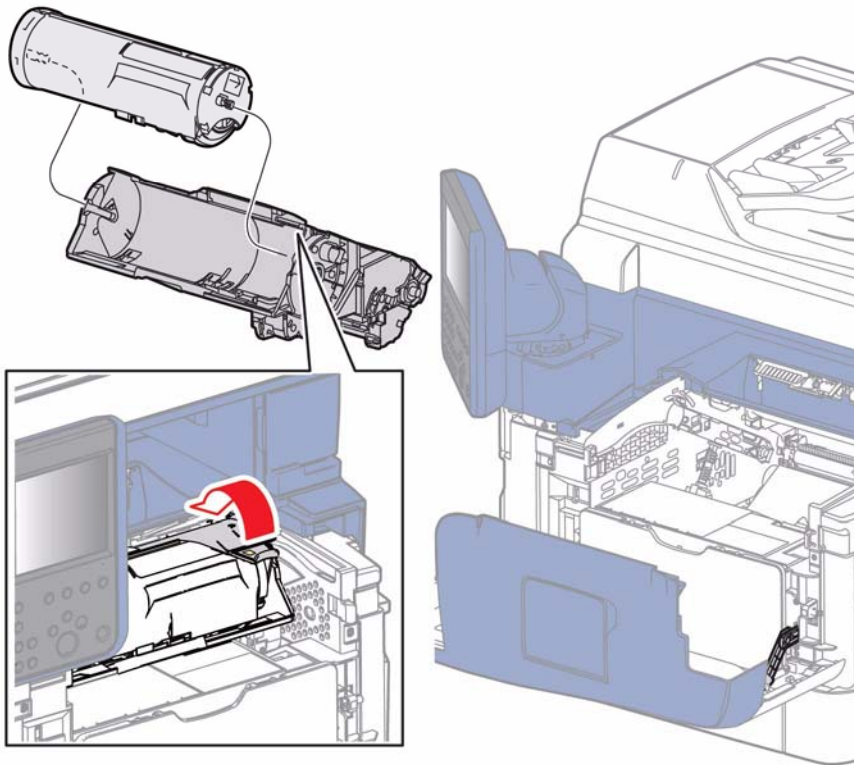

Figure 1 Remove the Toner Cartridge
2. Refer to Figure 1 to locate and release the Toner Cartridge lock, then lift the Toner Cartridge from the Drum Cartridge.